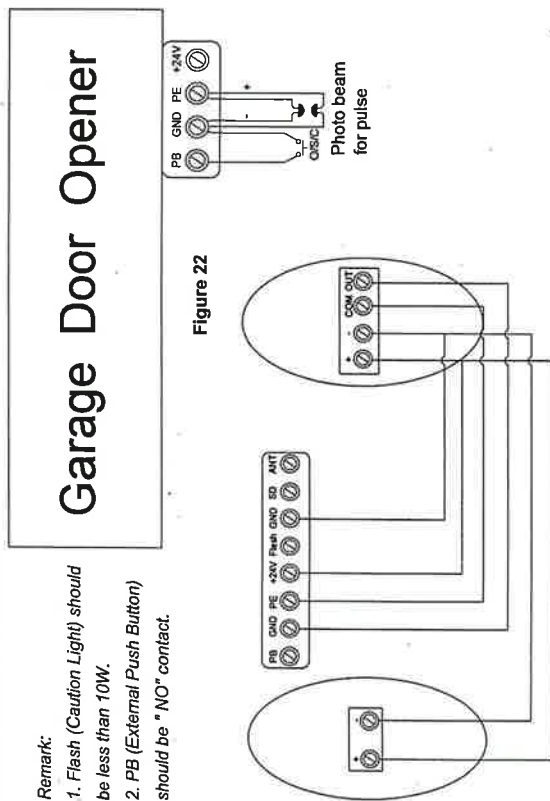
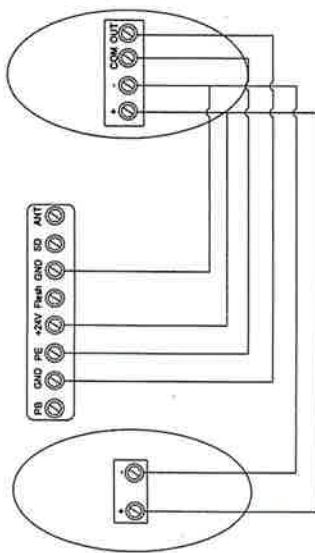

Figure 22
Figure 23
**NOTE:** Make sure the photo cell has been correctly installed and use Normally Closed contacts to the accessory terminals of the opener (Fig.22, Fig.23)
The O/S/C facility can be used for an external push button switch to operate the opener. The switch must have voltage free normally open NC contacts (Fig. 22)
### Photo beam connection (optional) – Fig.22, Fig.23 Switch control connection (optional) – Fig.22
1. The O/S/C interfaces available ( Fig. 22)